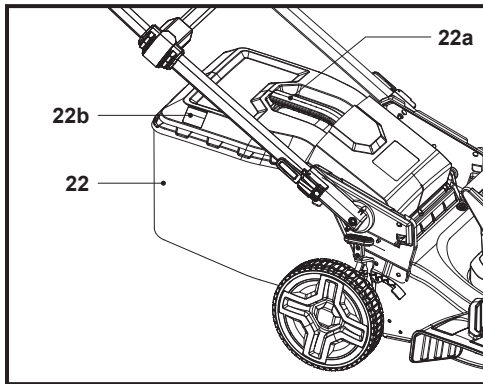

Fig. 12
1. When the hatch (22b) is opened the grass catcher (22) has sufficient volume left to collect grass (Fig. 12).